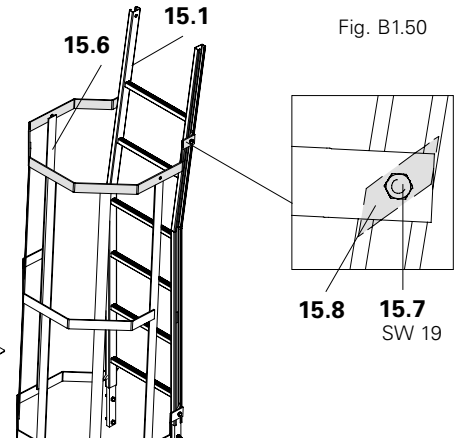

Fig. B1.52
2. Slightly loosen bolts M12 x 25 (15.7) (4x) on the clamping plate (15.8), position clamping plate on the ladder longitudinal members, and tighten bolts. (Fig. B1.52)